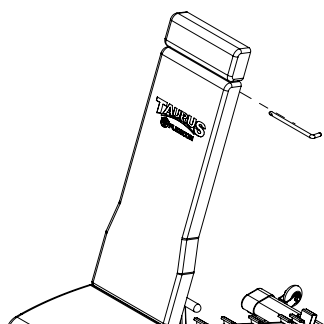

Fig. 1
1. Remove the L-pin from behind the back cushion (E) (Fig. 1).